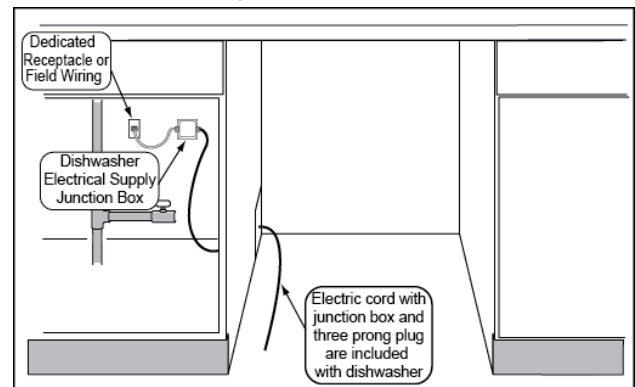

Figure 6
The dishwasher electrical supply junction box (P) and dedicated receptacle must be mounted in an accessible cabinet adjacent to the dishwasher (do not mount the junction box or receptacle behind the dishwasher). You will need a $4\frac{3}{4}'' \times 2\frac{3}{8}''$ (120 x 60 mm) opening through the cabinet in order to pass the junction box through (see **Figure 6**). If the opening is made through wood, sand it smooth. If the opening is made through metal, use the included protective grommet (I) or other approved method to protect wiring from damage. Use the four screws included (or appropriate fastener) in the parts bag to securely mount the junction box so that it can be easily accessed (see **Figure 6**). The electrical supply can be connected in two ways: